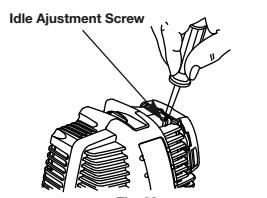

Fig. 32
- Release the throttle trigger and let the engine idle. If the engine stops, insert a small phillips or flat blade screwdriver into the hole in the air filter/muffler cover (Fig. 32). Turn the idle speed screw in, **clockwise**, 1/8 of a turn at a time (as needed) until the engine idles smoothly.